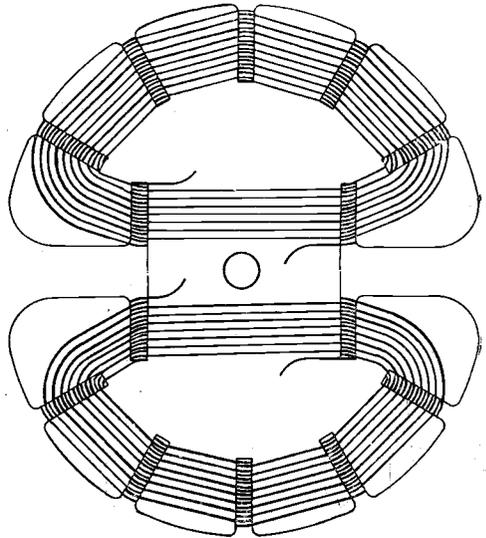

Fig. 11. One winding of a D type variometer. Two of these are made. One is fixed, and the other mounted above it so that it may be rotated.
(E) An improvement is obtained if the coils are wound to have the shape of the letter D, Fig. 11. A simple construction consists of cards which have slots, wound with wire, the wire passing in and out of the slots, very similar to the construction of the ordinary basket type coil. One card is fixed and the other is provided with a knob,